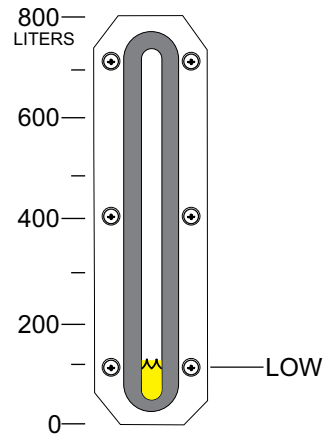

Figure 19. Fuel Gauge
2. Read the fuel gauge (Figure 19 ) and determine if the fuel level is low.